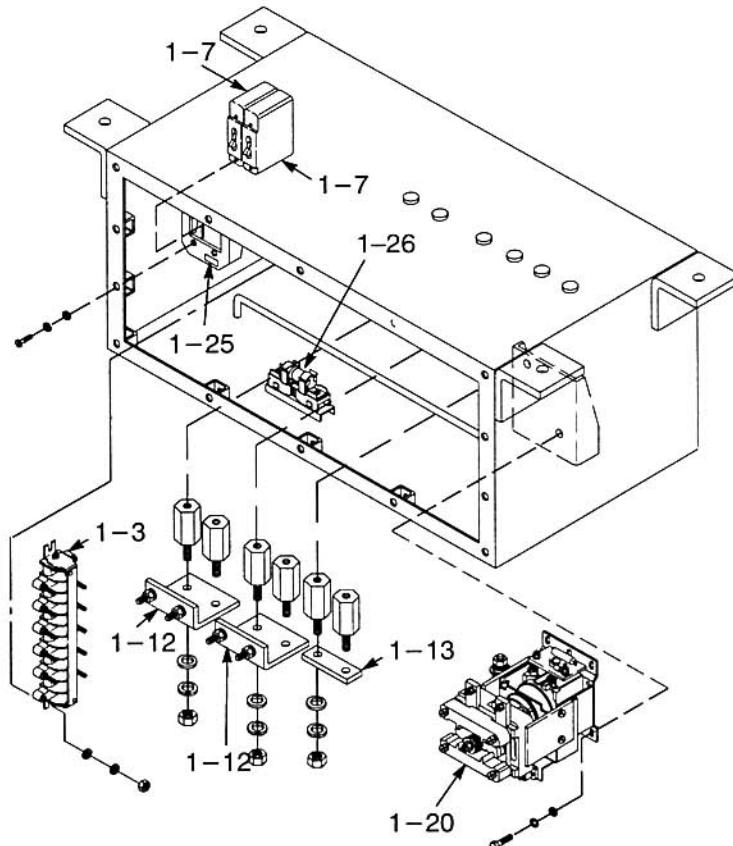

Figure 7-174 Inspect Contactor Group
- d. Inspect insulators (1-11, Figure 7-174) for cracks or damage. If found, replace defective insulators.